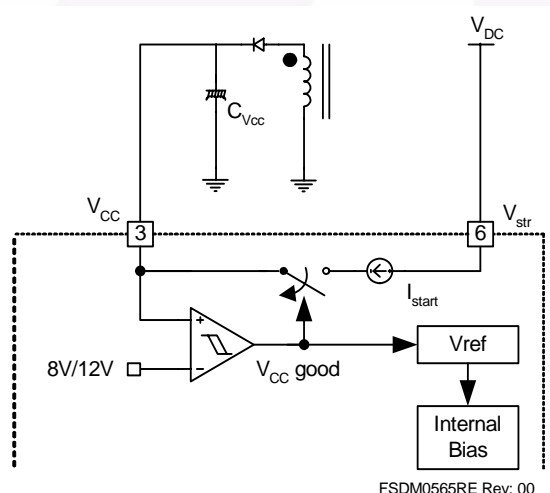

Figure 17. Internal Start-up Circuit
1. Start-up: In previous generations of Fairchild Power Switches (FPST[™]), the V_{CC} pin had an external start-up resistor to the DC input voltage line. In this generation, the start-up resistor is replaced by an internal high-voltage current source. At start-up, the internal high-voltage current source supplies the internal bias and charges the external capacitor (C_{VCC}) connected to the V_{CC} pin, as illustrated in Figure 17. When V_{CC} reaches 12V, the FSDM0x65RE begins switching and the internal high-voltage current source is disabled. The FSDM0x65RE continues normal switching operation and the power is supplied from the auxiliary transformer winding unless V_{CC} goes below the stop voltage of 8V.